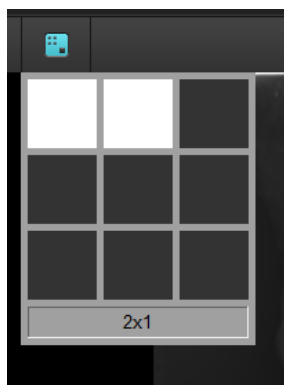

Figure 9.4 Image Layout
- ① Image layout: Modifies the image layout. When you click on the button, a 3x3 grid appears on the screen as shown in Figure 9.4. Select your desired layout size. You can select up to a 3x3 layout.